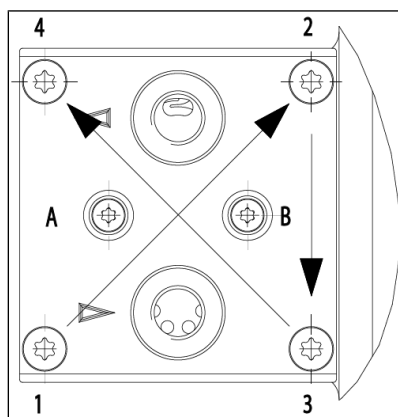

Fig.8 Tighten cap head screws
2. Screw in the screws (5) with disk spring and slightly tighten them crosswise in the order 1-2-3-4 (see Fig. 8) with 1 Nm.
4. Tighten the screws (5) with disk spring crosswise in the order 1-2-3-4 (see Fig. 8). Tightening torque: 2.1 Nm.